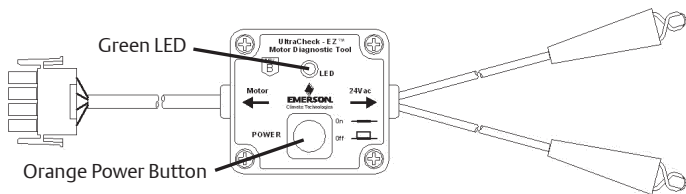

Figure 4
7. Use the scenarios below to determine needed action. Complete steps 8-11 before proceeding to the next check. Press the orange button [Figure 4] on the Ultracheck-EZ diagnostic tool and wait five seconds for the blower to spin.
8. Press the orange button [Figure 4] again to stop the blower and turn off the Ultracheck-EZ™ diagnostic tool.